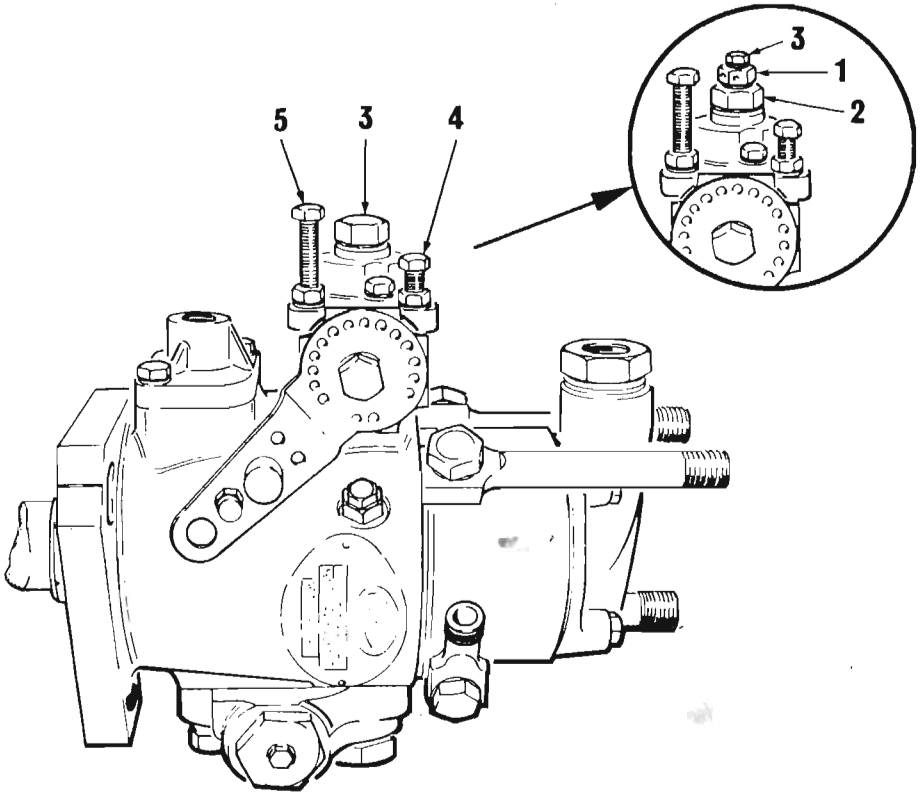

Fig. 10. Fuel Pump (anti-stall device shown inset).
1. Slacken air vent valve on top of control gear housing (see fig. 10).
(see fig. 10).